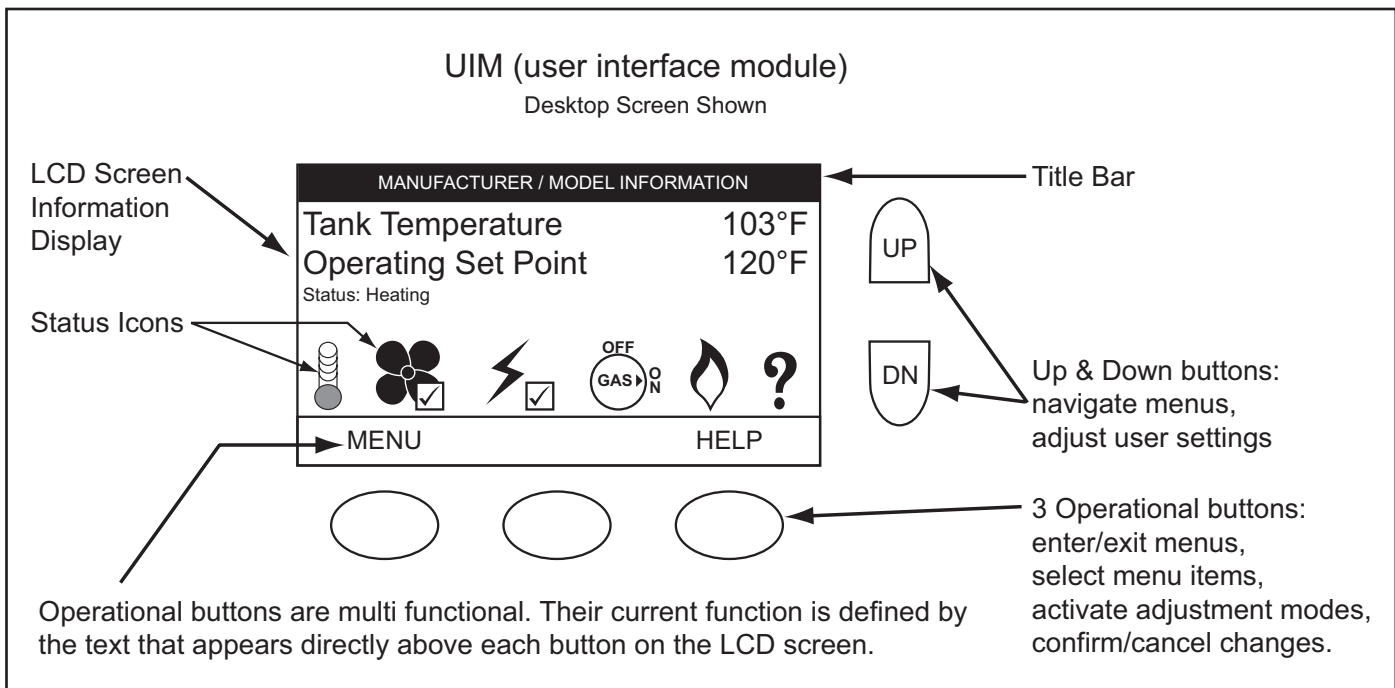

Figure 55
All operational information and user settings are displayed and accessed from the UIM. The UIM houses the control system's LCD (liquid crystal display) and five snap acting (momentary) user input buttons; an up, down and three (3) multi functional operational buttons below the LCD, see Figure 55.
The Status Icons are displayed on the Desktop screen and convey operational and diagnostic information. The icons are described in the table below. See Figure 55 on page 42 and the Sequence Of Operation on page 43.
The current operational state of the water heater is displayed on the Desktop screen as the "Status." The common operational states are described in the table below. See Figure 55 on page 42 and the Sequence Of Operation on page 44.